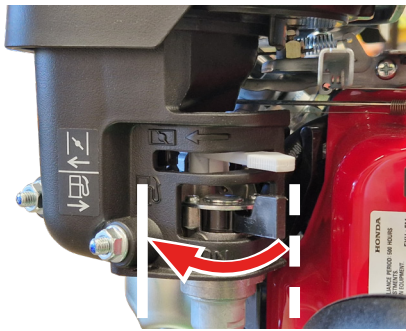

Fig.8C -
3. Set the fuel lever to the *closed* position (towards the rear) (Fig.8C).